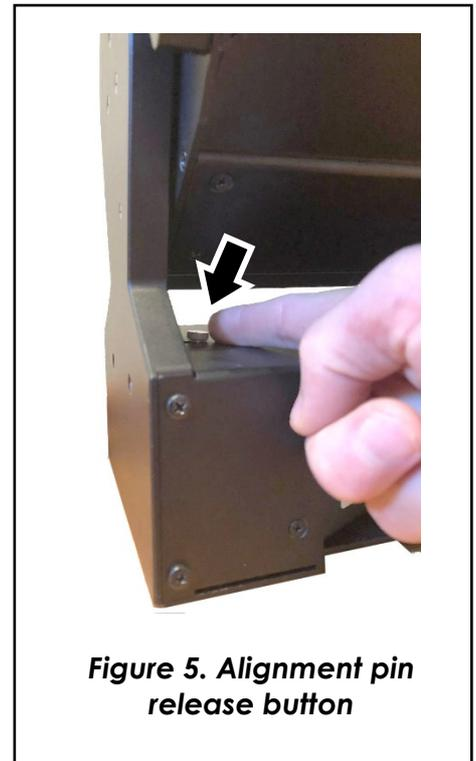

Figure 5. Alignment pin release button
1. See Figure 5. The alignment pin release button is located on the base of the fixture at the left-hand end when viewing the fixture from the control panel side.